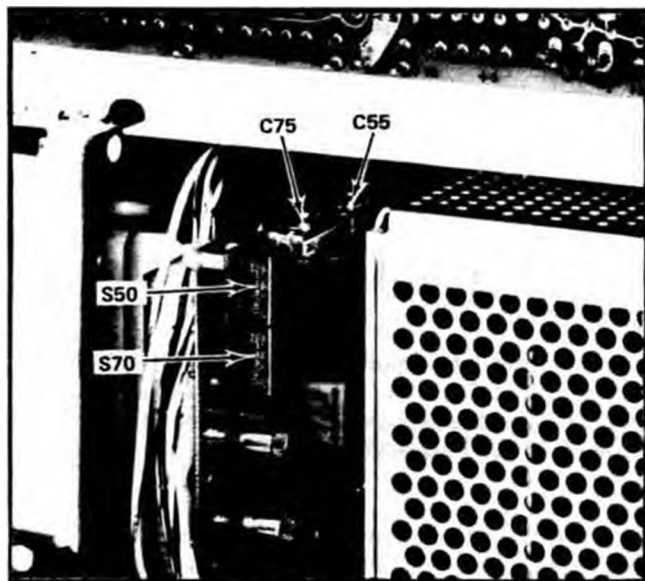

Fig. 5-22. Location of C55, C75, S50 and S70.
j. Set the Delay Disable switches S50 and S70 (see Fig. 5-22) to their In positions.
l. ADJUST—C55 (see Fig. 5-22) for an eye opening of 0.28 division or less.
p. ADJUST—C70 (see Fig. 5-22) for an eye opening of 0.28 division or less.